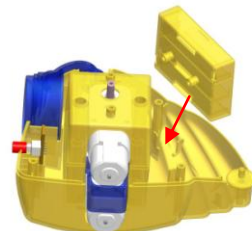

Fig. 8
7. Install the battery box (9) on the body part. (Fig. 8)